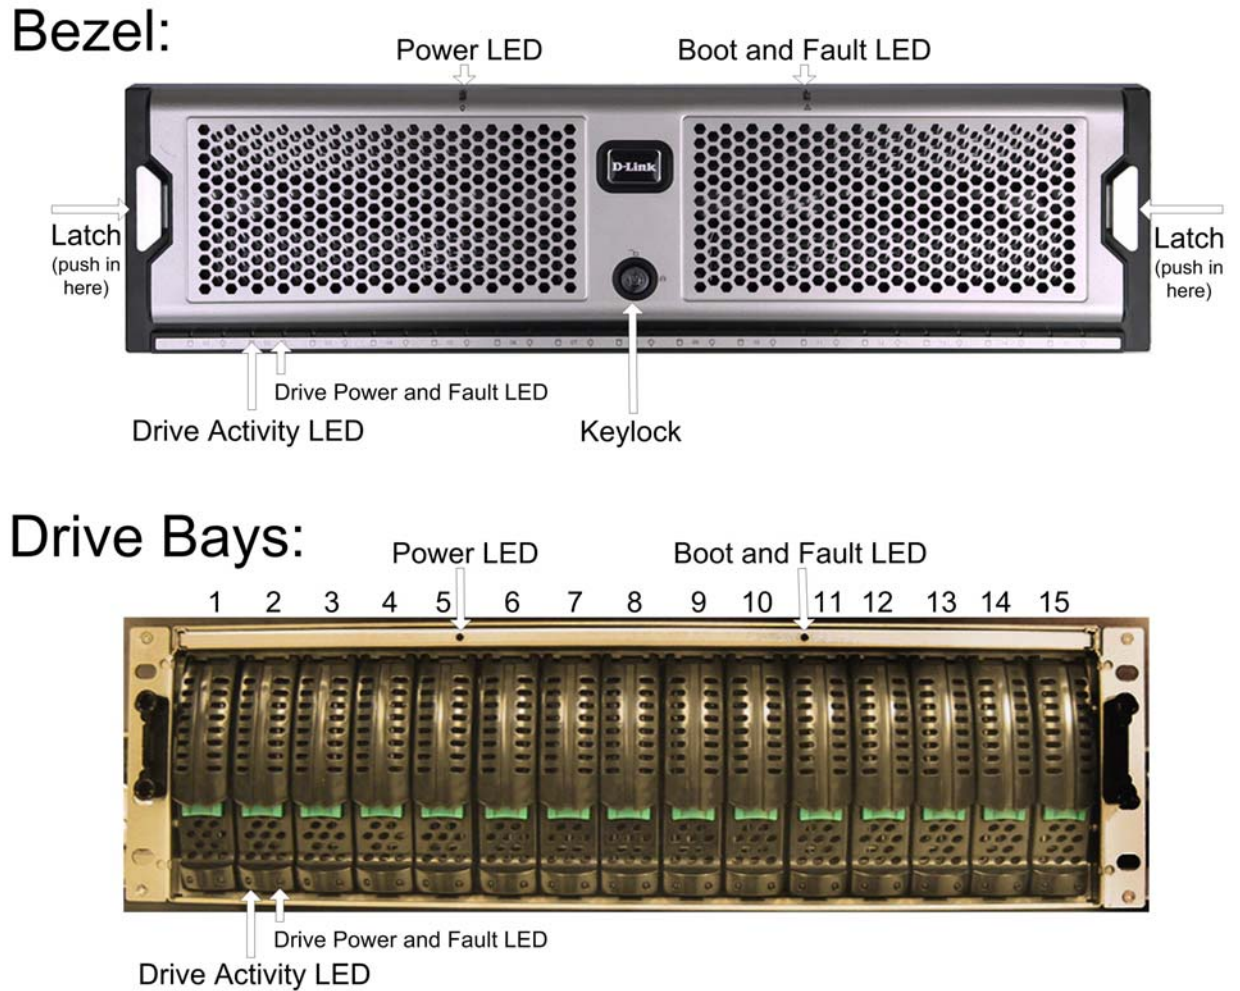

Figure 3-1 Front View of the XStack DSN-3000 Series Enclosure
The following sections describe the hardware components on the front of the XStack Storage enclosure. Figure 3-1 shows the removable front bezel along with the drive bays and major components.
Figure 3-1 reveals several LEDs that provide useful information about the state of the XStack Storage unit. The Power LED illuminates when the system is powered. The bicolor Boot and Fault LED will remain clear during bootup and then green if booting is successful. If the boot process is unsuccessful, or a system fault occurs, then it will turn red.
Figure 3-1 shows the XStack Storage front bezel with key lock and two latches. This bezel can be locked in place to protect the system from unauthorized drive access and removal.
**Bezel Removal:** Simply press inwards (as the arrows reveal) on the two latches shown in Figure 3-1. The bezel will come off easily providing access to the drive bays behind it. If the key lock is in the locked position, then the latches cannot be pressed inwards.
Figure 3-1 illustrates the fifteen hot-swappable drive bays and their numbering scheme from left to right (0 through 14).